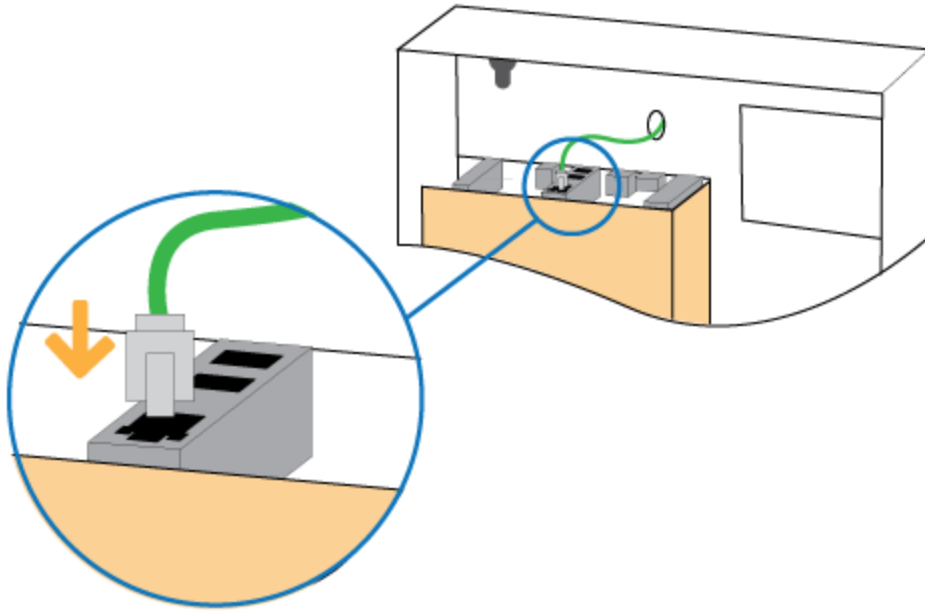

Figure 2: RJ45 Cable Connection to ACP
4. Secure the control panel box to the wall with screws so the box is snug against the wall. See Figure 2.